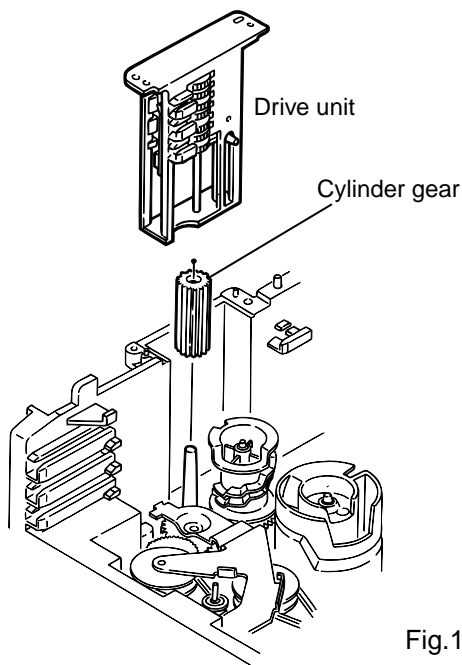

Fig.16
2. While turning the cam gear L, align the pawl "N" position of the drive unit to the notch position(Fig.16) on the cam gear L.
3. Pull out the drive unit and cylinder gear(See Fig.16).